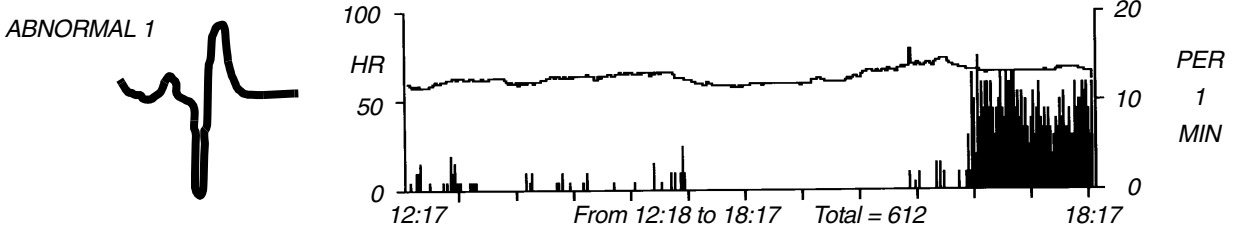

Figure 9-2: Abnormal class trend
- a trend graph of the selected class, or group of classes, on the right. Refer to *Figure 9-2: Abnormal class trend*.